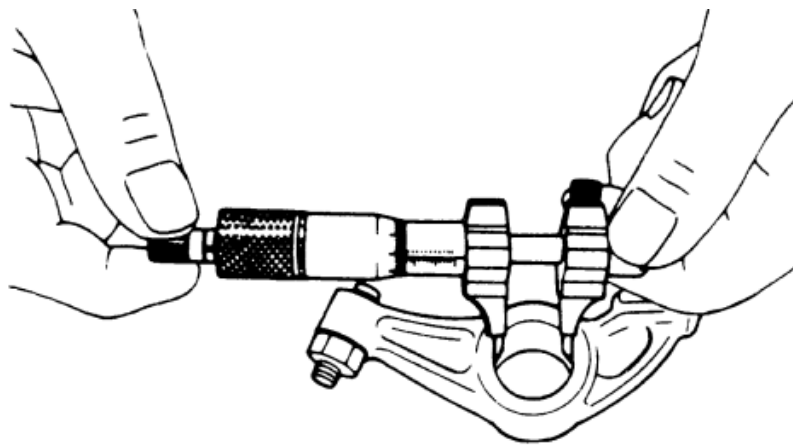

Fig.35
- Measure the inside diameter "D" of the bush of the rocker arm with a telescopic gauge and outside micrometer (Fig. 35).